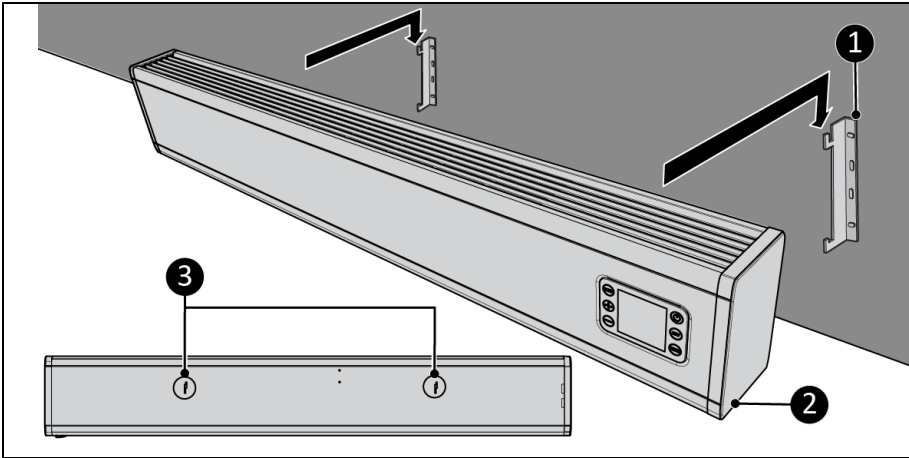

Figure 10
7. Place the bracket holes (Figure 10, pos. 3) over the wall brackets (Figure 10, pos. 1).
8. Let the device (Figure 10, pos. 2) drop into the openings of the wall brackets (Figure 10, pos. 1).